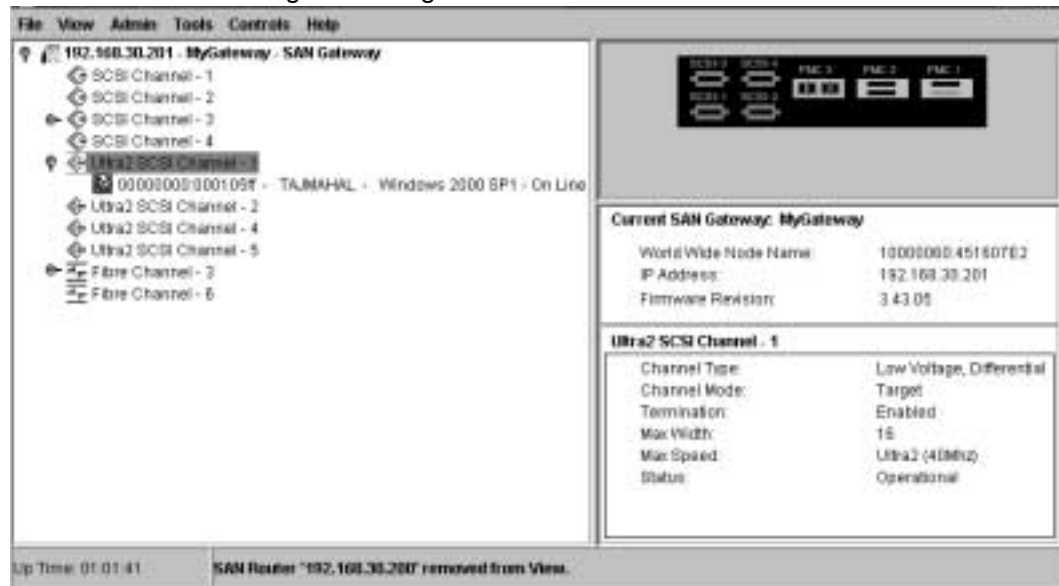
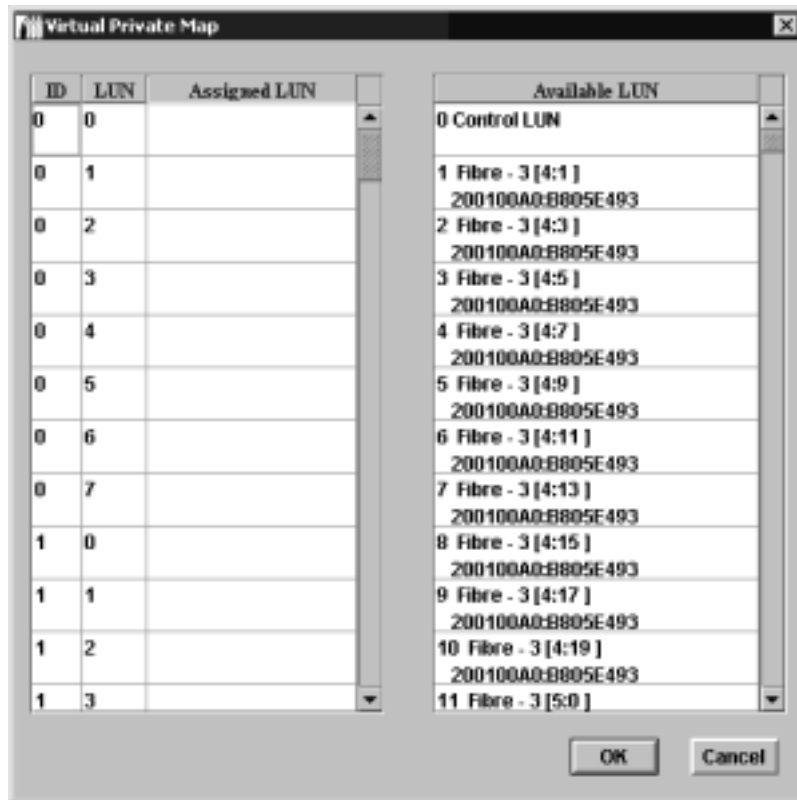

Figure 7-1:SCSI Channel Set to Target
Figure 7-2:Initial VPM Mapping Window (Fibre Devices)
displayed in the Virtual Private Mapping window. The Fibre Channel devices on Fibre Channel 3 in Figure 7-1 are displayed in Figure 7-2.
- In Figure 7-2 you can see how these devices look to the ADIC Gateway before they have been assigned to a SCSI host channel. LUN 0, shown in Figure 7-2, is reserved for the ADIC Gateway Command and Control LUN. When the Command and Control LUN is mapped, its Channel numbering convention follows a different numbering practice than the practice followed in Tree View. See “Channel Number Reference” on page 321.